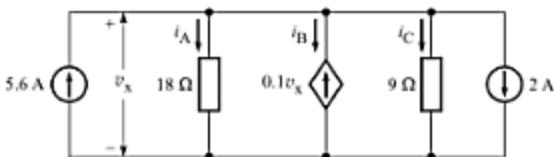

Fig. A-107
- A-72. Determine  $i_A$ ,  $i_B$ , and  $i_C$  in the circuit of Fig. A-107.